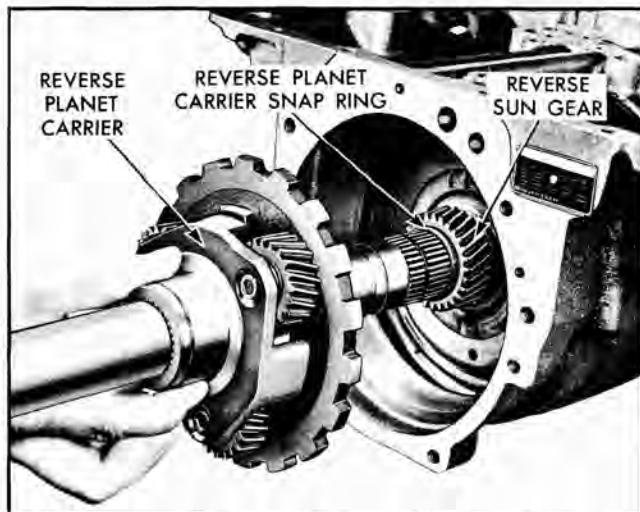

Fig. 151 Installing Reverse Planet Carrier
- Install reverse planet carrier on output shaft, aligning splines and pinions (Fig. 151).